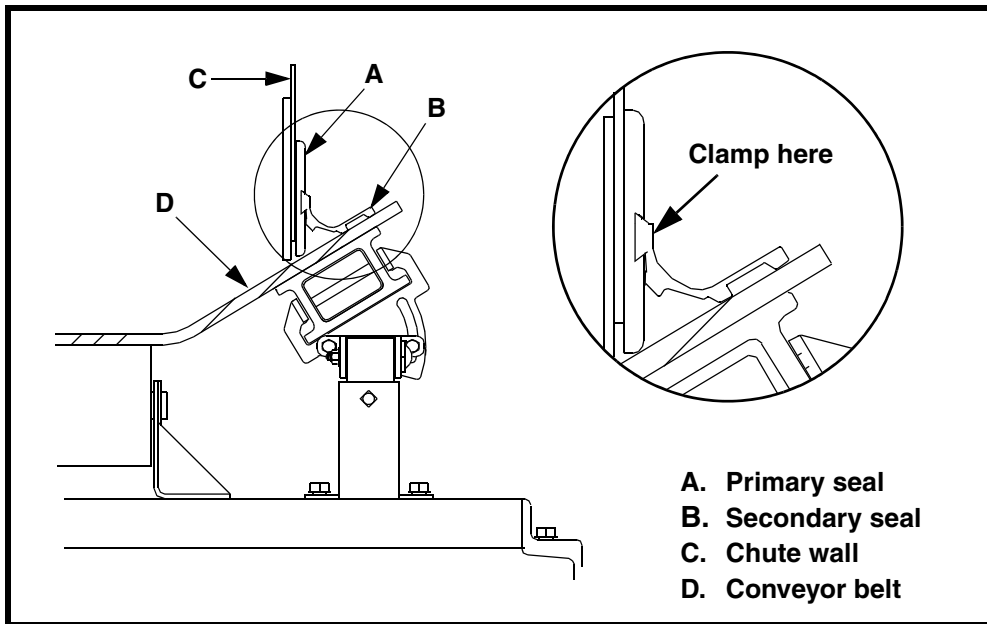

Figure 6. Installing Urethane Seals
- a. Place primary seal (A, Figure 6), with secondary seal (B) connected, against chute wall (C).
- c. Clamp seals to chute wall at dovetail using Martin® Angle Clamps (see Appendix A and Figure 6). Refer to drawings that were included with clamps for installation instructions. If you are not using Martin® Angle Clamps, space clamps at 12-in. (305-mm) centers so that primary seal does not move while conveyor belt is running (loaded or unloaded).